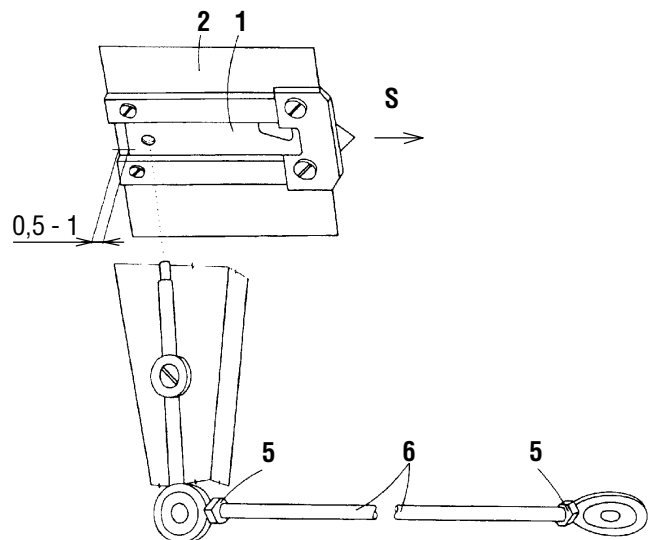

Fig. 24
25. Setting of the starting position of the movable thread cutter (Fig. 24, 25)
30. Dismounting and mounting of the movable cutting knife (Fig. 24)